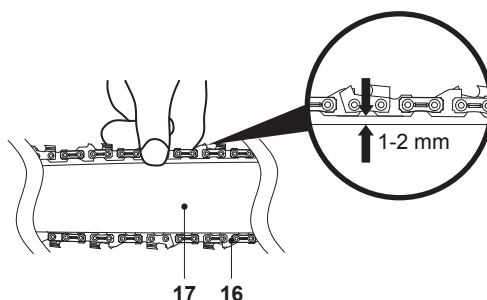

Fig. 6
1. Remove the battery. Place the product on a suitable flat surface with the sprocket cover (9) facing forwards.
2. Check the chain tension using one hand to lift the saw chain (16) against the weight of the product. The correct chain tension is achieved when the saw chain can be lifted by approximately 1-2 mm from the guide bar (17) in the centre (Fig. 6).